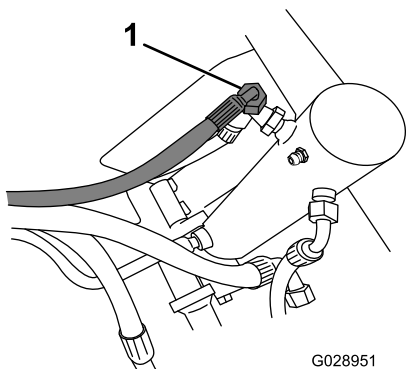

Figure 6
5. Remove the 1/4-inch hose from the tee on the lift cylinder for the right, rear cutting-unit (Figure 6).
6. Attach the new 1/4-inch hose to the lift cylinder (Figure 6).